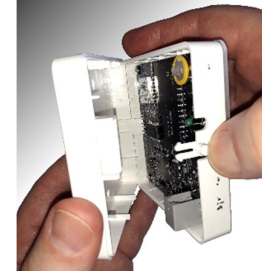

Fig 12
**Step 1** Press release button on side of Controller case and pull the back case away (see Fig 12).